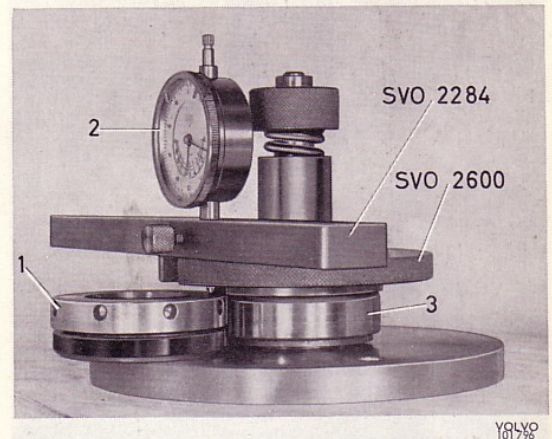
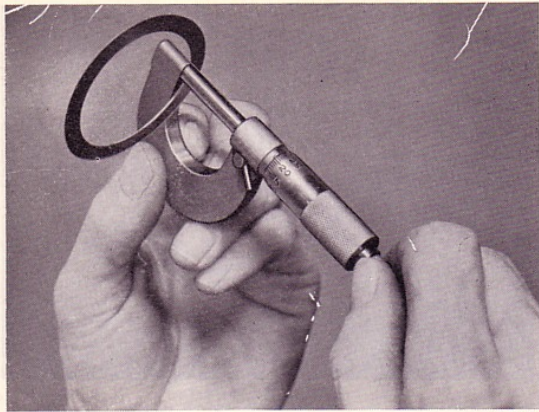

Fig. 44. Determining shim thickness
Fig. 45. Measuring the shims
rollers take up the correct position. Place the adjusting ring in the measuring fixture as shown in Fig. 44. Use indicator retainer SVO 2284 and a dial indicator. Place the measuring point of the gauge against the adjusting ring and set the gauge to zero. Then place the point of the gauge against the outer ring of the bearing. The gauge now shows immediately the requisite size for the shims. Measure the correct thickness of the shims with a micrometer, see Fig. 45. NOTE. It is not always possible to obtain shims with exactly the correct thickness. However, they must not be 0.03 mm (0.0012)
3. When correct tooth flank clearance and contact pattern are obtained, remove the differential and adjusting ring. Place the centre washer on the measuring fixture. Place a bearing in the measuring fixture and fit the plate, spring and nut. The nut should be fitted with the flat side facing downwards. Turn the plate forwards and backwards several times. Install the dial indicator gauge and retainer SVO 2284. Set the gauge to zero against the adjusting ring and then place the pointer facing the bearing, see Fig. 44. Read off the gauge. With a micrometer measure the shims the total thickness of which should correspond to the read-off value +0.07 mm (0.0028"). Take care of the shims together with the measured bearing. Repeat the above with the other bearing.